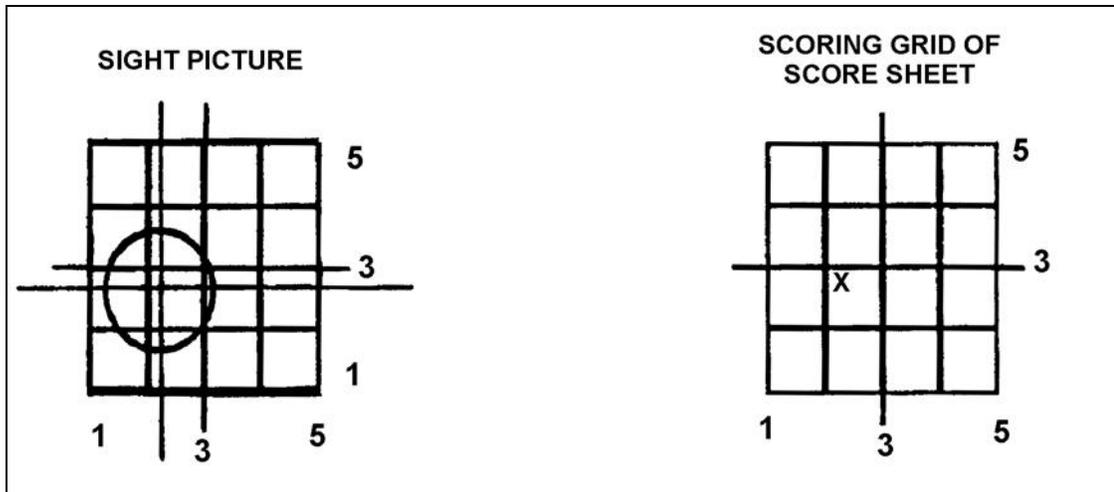

Figure B-15. Sight picture and scoring grid.
(1) *Marking the Aiming Point on the Scoring Grid.* One technique for observing and plotting the telescope's aiming point is to draw an "X" on the scoring grid where the telescope reticle aims at the panel (Figure B-15). However, the clutter between the reticle and grid lines can make using this technique difficult.
(2) *Determining Grid Coordinates for Each Aiming Point.* The second technique resembles that of using grid coordinates on a map. Determine grid coordinates for each aiming point using the numbers along the bottom and right sides of the test panel. Read the coordinates to the right and up, starting from the lower left-hand corner of the grid. Take two readings for each aiming point of the telescope: an azimuth (AZ) coordinate and an elevation (EL) coordinate.